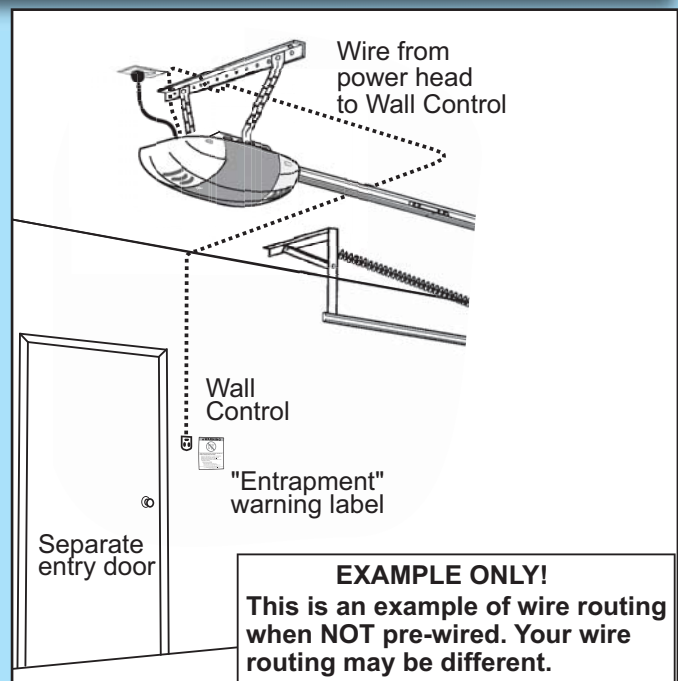

FIG. 3-1 Wall Control wire routing
- Locate Wall Control pre-wired wire ends (**Fig. 3-1**). (They should be located within the guidelines mentioned above.)
- Pick a convenient location for mounting Wall Control using the guidelines mentioned above (**Fig. 3-1**).
- Run wire from power head to Wall Control (**Fig. 3-1**).